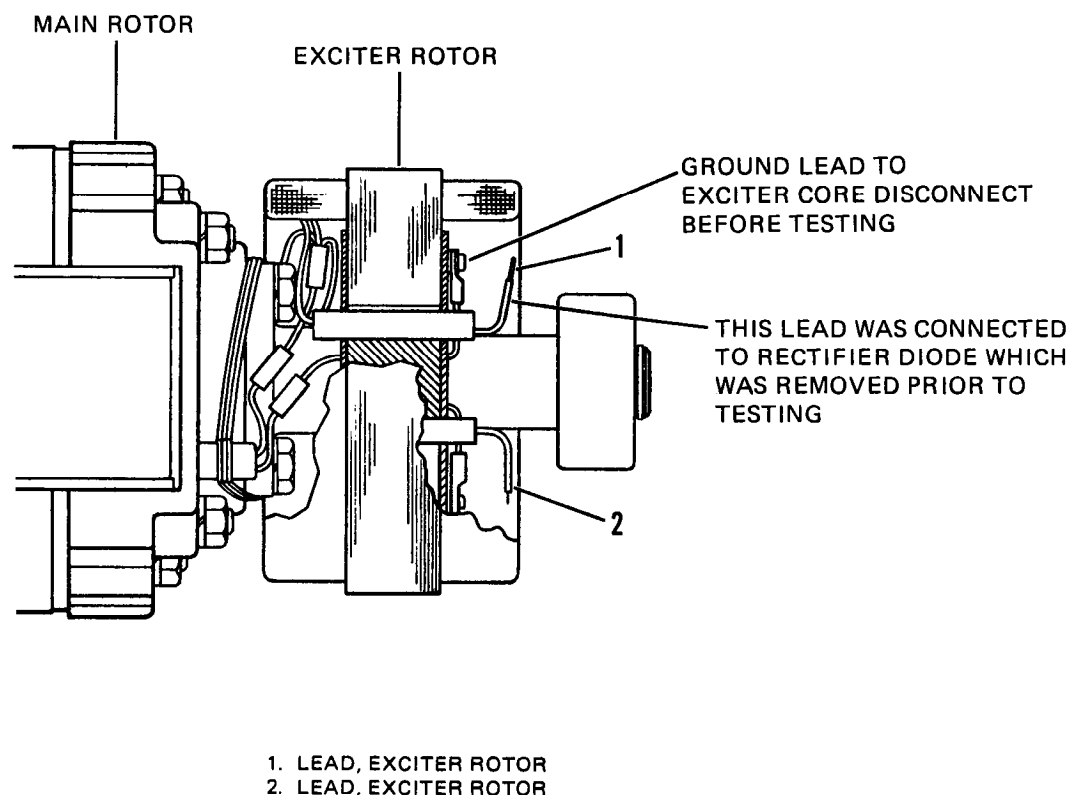

Figure 5-8. Exciter Rotor Winding Resistance Check.
Before testing, remove rotating rectifiers (refer to paragraph 5-5) and disconnect main rotor winding lead (2, Figure 5-8) from exciter core.
- (e) Check the exciter windings by connecting the multimeter across the exciter rotor lead pairs (1, Figure 5-8), and (2).